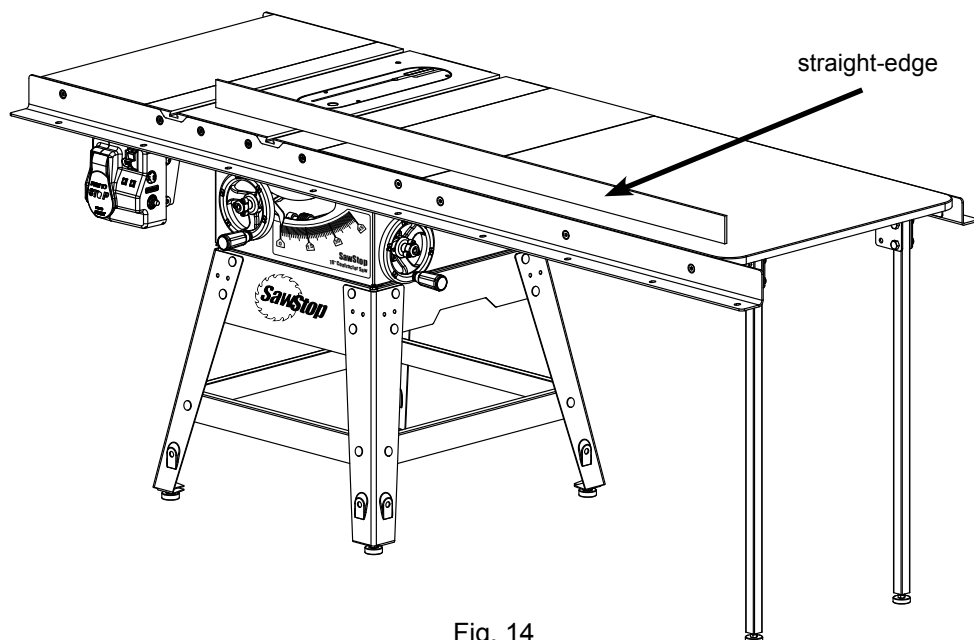

Fig. 14
14. If you loosened the rear rail in step 12, tighten it now. If necessary, level the extension wings before tightening (see step 8 for information about leveling the extension wings). Once the rear rail is tightened, make sure the extension table is flush against the right extension wing and there is no gap between them. Then, use a straight-edge to level the front edge of the extension table to the cast iron table top (see Fig. 14). You may have to pull up or push down on the outer edge of the extension table to level it. Once the front edge of the extension table is level, use a 5 mm hex key and a 13 mm wrench to fully tighten the nuts on the bolts that mount the extension table to the front rail.